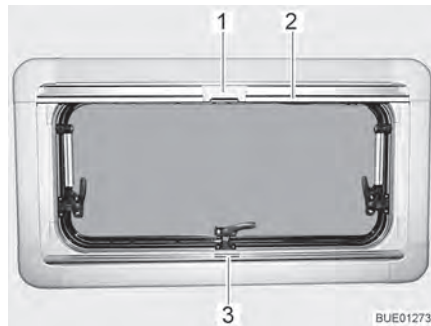
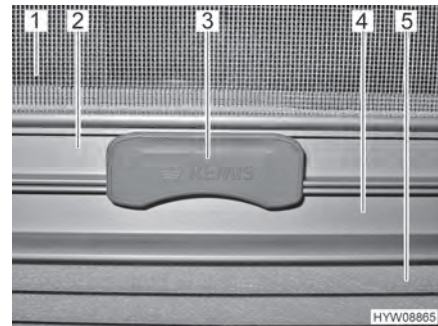

Fig. 43 Hinged window
Fig. 44 Catch
The Roman shade (Fig. 44,5) is located in the lower blind box.
- Seize the Roman shade by the centre of the holding bar (Fig. 43,3 and Fig. 44,4), pull it from the bottom to the top and release it at the desired height. The Roman shade will stay at this height.
**Insect screen** The insect screen (Fig. 44,1) is located in the upper blind box.
- Pull the insect screen down by the holding bar (Fig. 43,2 and Fig. 44,2), until it touches the holding bar of the Roman shade (Fig. 44,4).
- Clip the catch (Fig. 43,1 and Fig. 44,3) on the insect screen into the holding bar of the Roman shade. When the catch is locked, the Roman shade and the insect screen can be adjusted together.
- Push the catch (Fig. 44,3) on the insect screen upward.
- Move the insect screen back slowly on the holding bar (Fig. 43,2).